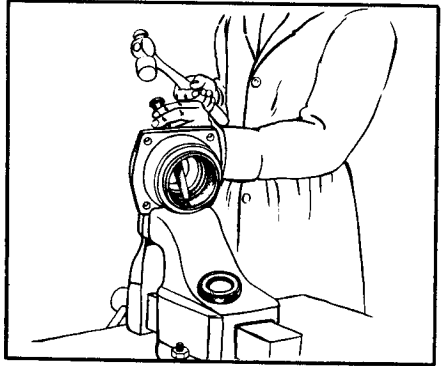

Figure 14 Removing Bearing Cup
bolts from the bearing container (17), Figure 11, and remove from the hoist. Remove the oil seal (1) from the bearing container. Bearing cup (20) may be removed from the bearing container (17) as shown in Figure 14.